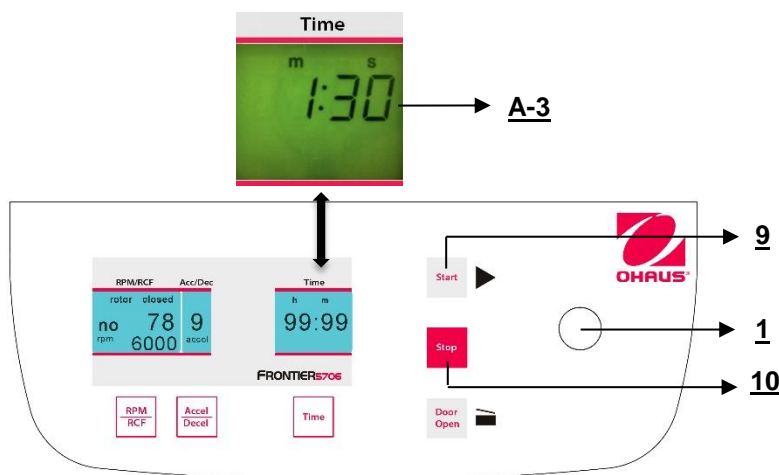

Figure. 22
To start the centrifuge, make sure that the lid is closed and then press the key "**Start**" (9), (refer to figure 22). With the key "**Start**" (9) you can start runs with manually pre-selected parameters. When the respective pre-selected running time has ended then the centrifuge will stop automatically or you can interrupt each run with the key "**Stop**" (10).